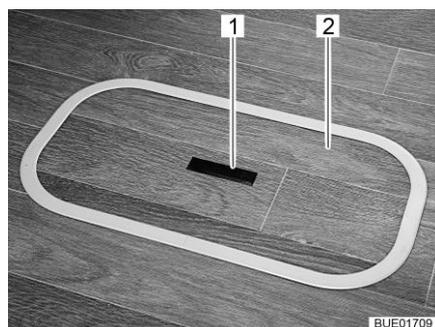
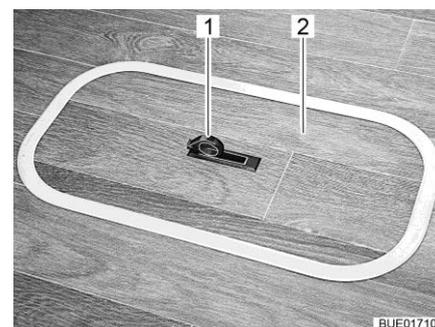

Fig. 50 Floor compartment cover (handle recessed)
Fig. 51 Floor compartment cover (handle swung out)
- Push one side of the grip plate (Fig. 50,1) downwards. The handle (Fig. 51,1) swivels upwards.
- Remove the cover (Fig. 50,2 or Fig. 51,2) upwards.